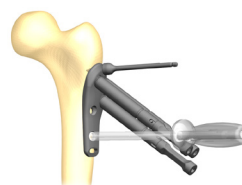

Figure 6c
- Insert a 2.0mm K-Wire (7116-1020) or 3.5mm x 18mm PF Pin (7117-3324) through the proximal provisional fixation slot to hold the plate position in the lateral plane and adjust in the AP plane (Figure 6c).